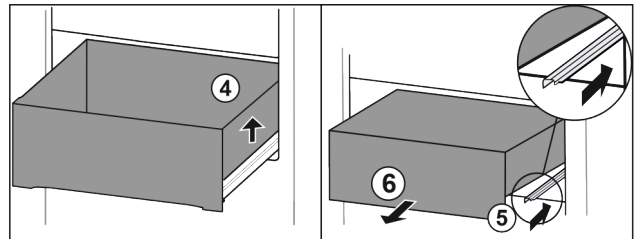

Fig. 69
- ▶ Lift drawer on the right. Fig. 69 (4)
- ▶ Insert right rail. Fig. 69 (5)
- ▶ Remove drawer to the front. Fig. 69 (6)